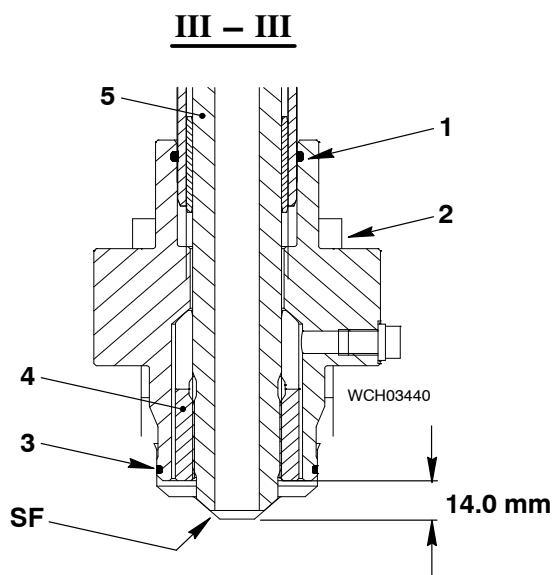

Fig. 12
- 1) Make sure that the O rings (1 and 3, Fig. 12) have no damage. If necessary, replace the O-rings.
- 2) Remove all of the protection from the sealing faces (SF).
- 3) Make sure that the claw (4) is correctly attached to the HP fuel pipe (5).